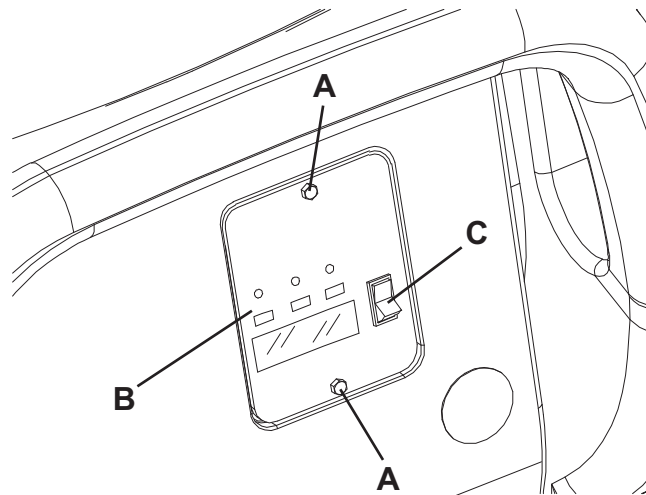

Figure 1
1. Remove the battery charger data inspection window screws (A, Fig. 1).
2. Remove the window (B).
3. Turn the battery charger selector (C) to WET position for lead batteries, or to GEL/AGM position for gel batteries.
4. Install the window (B) and tighten the screws (A).